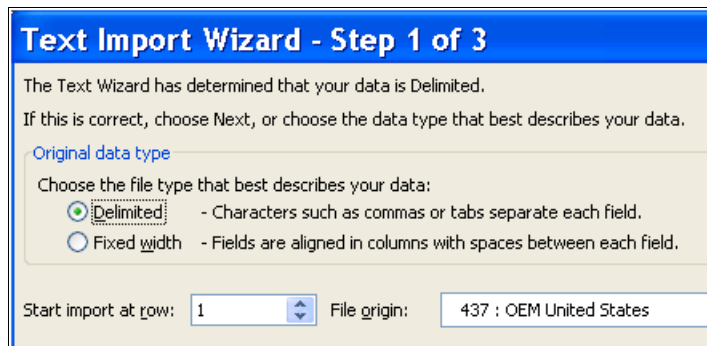

Figure 8 Text import options
7. When importing text, Excel prompts whether the format is delimited or fixed width. In our case, we are using a comma-delimited file. The dialog that is shown in Figure 8 is where you select the option **Delimited**.